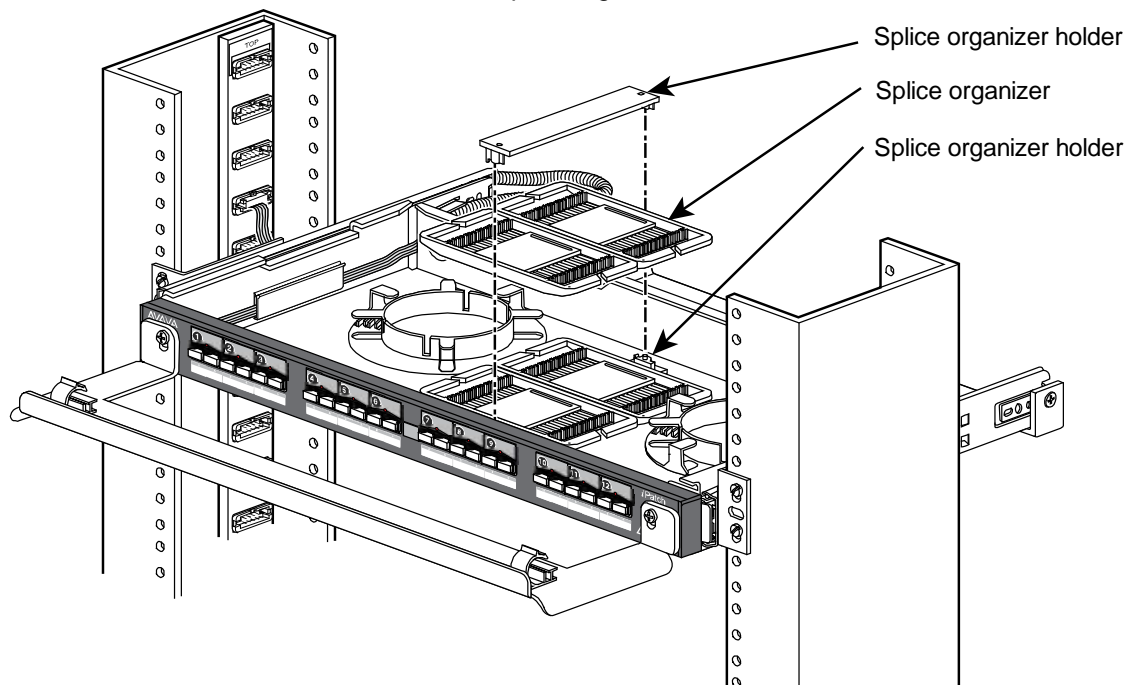

Figure 8 Installing Mass Fusion Splice Organizers Using Holders
4. Affix the holder and splice organizers to the shelf approximately in the position shown in Figure 8.
5. After you have finished splicing the fiber optic cable, stack the four splice organizers as shown in Figure 8.
6. Install the second splice organizer holder (provided with the shelf) as shown in Figure 8 so that it attaches to the bottom holder and secures the splice organizers.